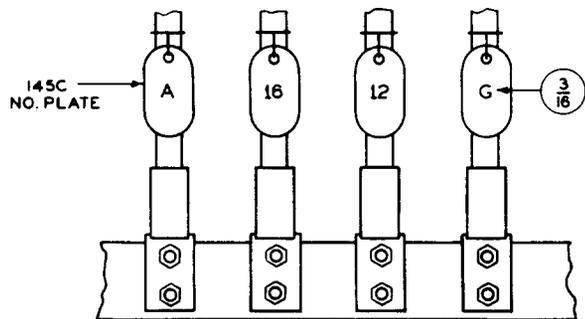
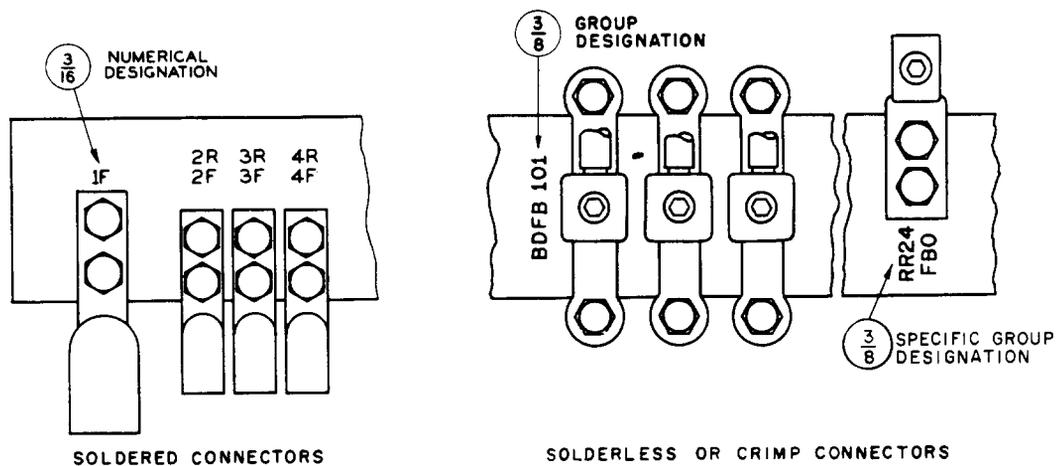

Fig. 13 - Cable Risers at Ground Bus Bar of Fuse Bays, Battery Distributing Fuseboards, MDF, CDF, or Protector Frames
Fig. 14 - Ground Bus Bar at Power Board
2.15 Where identification is not evident, leads terminated on battery ground bus bars and at the central office ground (with the exception of the A lead) shall be designated with number plates as shown in Fig. 13 to agree with the designation shown on the circuit.
2.17 Where identification is not evident, designate leads at ground bus bars, other than those mentioned in 2.15 and 2.16, with a specific (if space permits) or a numerical designation as in Fig. 14 if the bus bar is of sufficient width. Where space is not available, place the stamping on the panel if the designation can be readily associated with the lead. In other cases, designate the lead with a number plate (see Fig. 13) to agree with the designation shown on the circuit. Multiple leads need not have different numbers.